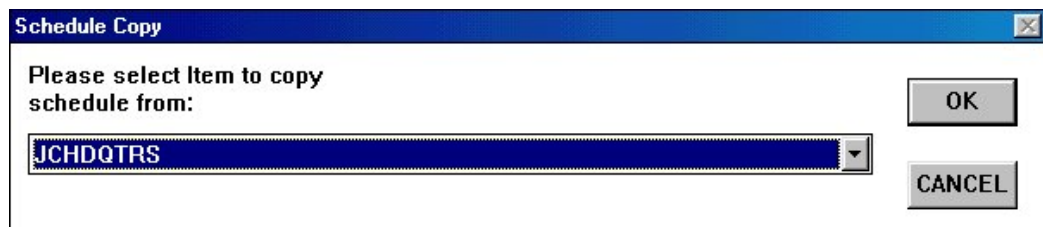

Figure 9-5: Schedule Copy Dialog Box for an Object
4. Click Yes. The Schedule Copy dialog box appears (Figure 9-5).